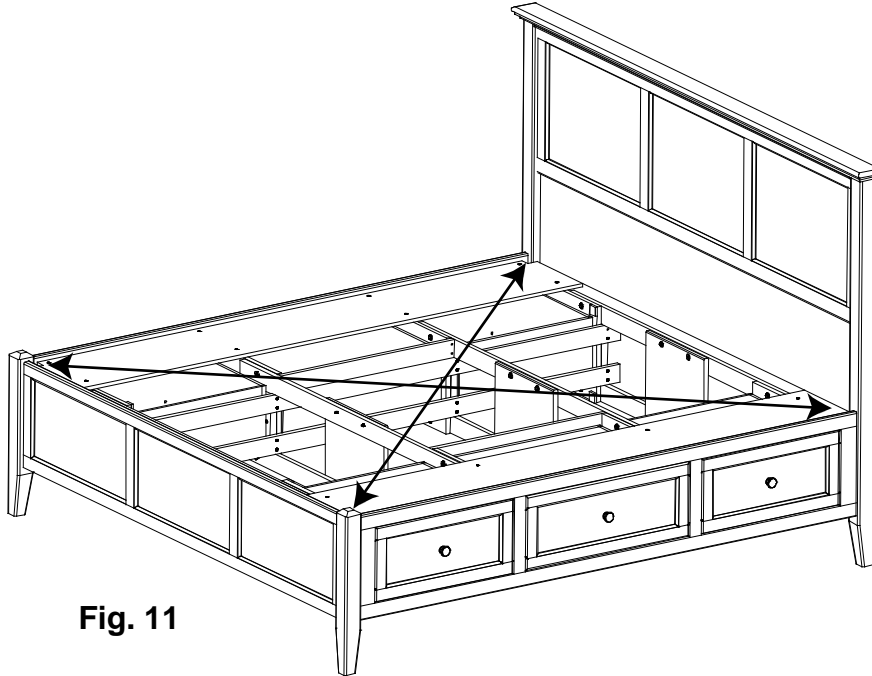

Fig. 11
11. To make sure the bed is square, measure the distance between opposing corners. If one of the measurements is larger, tap on a footboard leg until the measurement is equal. See Figure 11.